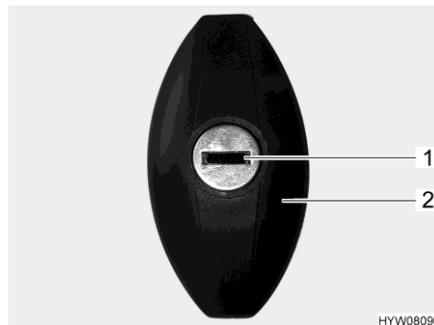

Fig. 58 Flap lock (elliptical-shaped, closed)
- Insert key into locking cylinder (Fig. 58,1) and turn one half turn in an anticlockwise direction. The lock handle (Fig. 58,2) snaps out.